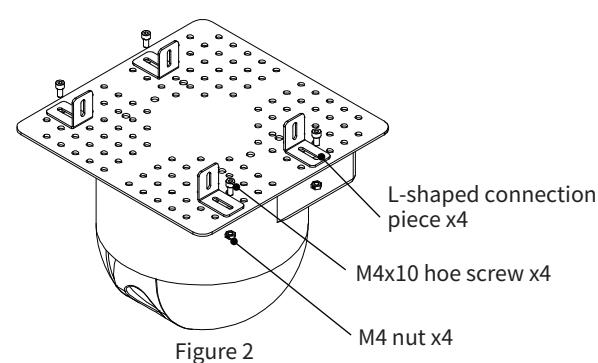

Figure 2
2. After the camera and the mounting plate are locked with screws, use M4x10 hoe screws to lock the L-shaped connecting piece on the mounting plate.(As shown in Figure 2)